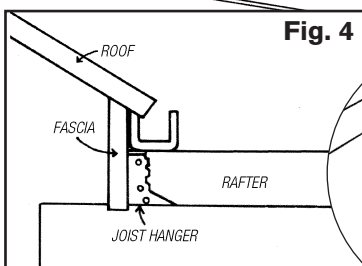
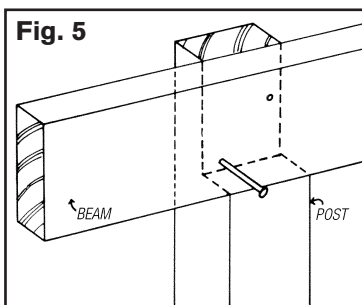
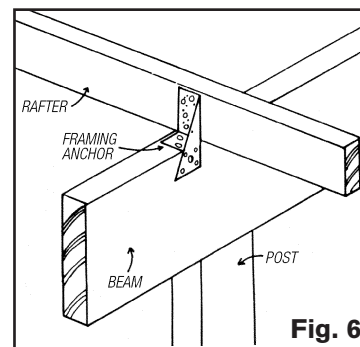

Fig. 4
Fig. 5
Fig. 6
2. Use joist hangers to fix directly to the existing fascia board (Fig. 4). Beams should be bolted to the inside of the posts (Fig. 5). Rafters will then be attached to the beam and the wall plate, either skew nailed (nailed at an angle) or with framing anchors (Fig. 6). Pre-drill each rafter to avoid splitting.